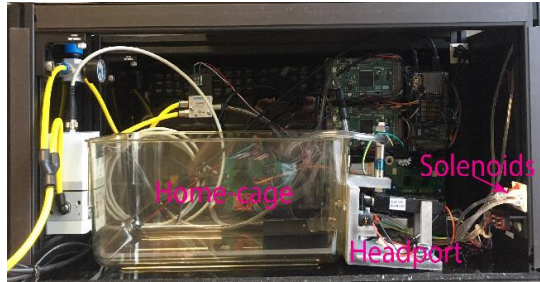

Fig.1.4
- The Home-cage and the Headport are fixed on the floor of the enclosure (Fig.1.4).